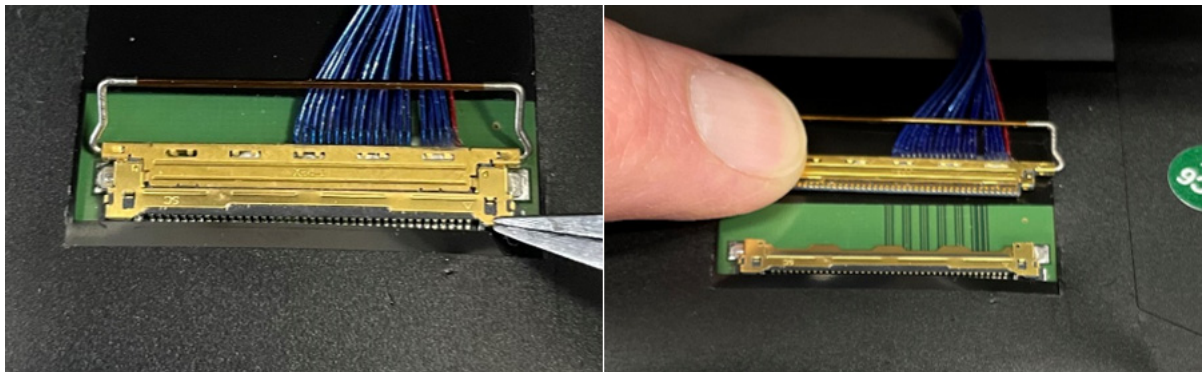

Figure 5-11. Display Cable Removal
8. Release the locking connector by slowly lifting the metal flap upwards to disconnect the display cable. See Figure 5-11.